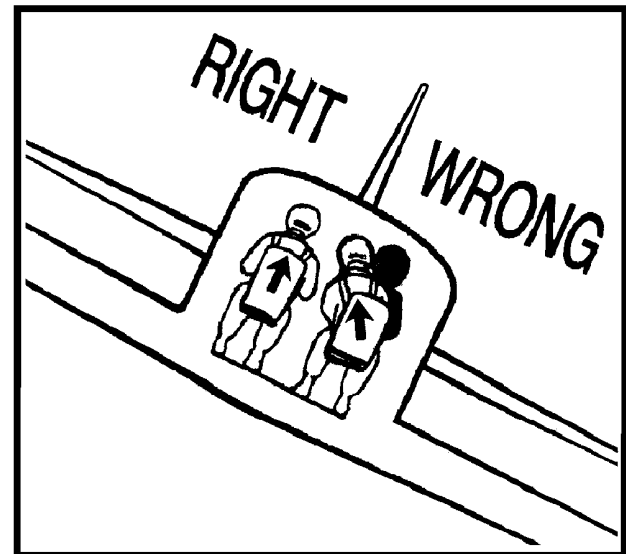

Figure 2.6. Posture in a Turn.
2.8.6. Because the aircraft normally will turn as long as there is any bank, start the rollout before reaching your desired heading. The aircraft will turn some during the time it takes to level the wings. The steeper the bank, the more lead required to roll out on a desired heading. Release the pressures smoothly until neutralizing the controls as the wings become level. Your posture in the aircraft is very important to all maneuvers. Do not lean forward, backward, or side to side. Instead, sit erect and move your head around freely (figure 2.6). During turns, maintain this position. Do not lean away from the turn or attempt to keep your body vertical with the horizon. Relax and ride with the turn. If you do not maintain a constant position in the cockpit, your outside references continually change. Relaxed pilots are usually good pilots because they are free to think and can feel the pressures